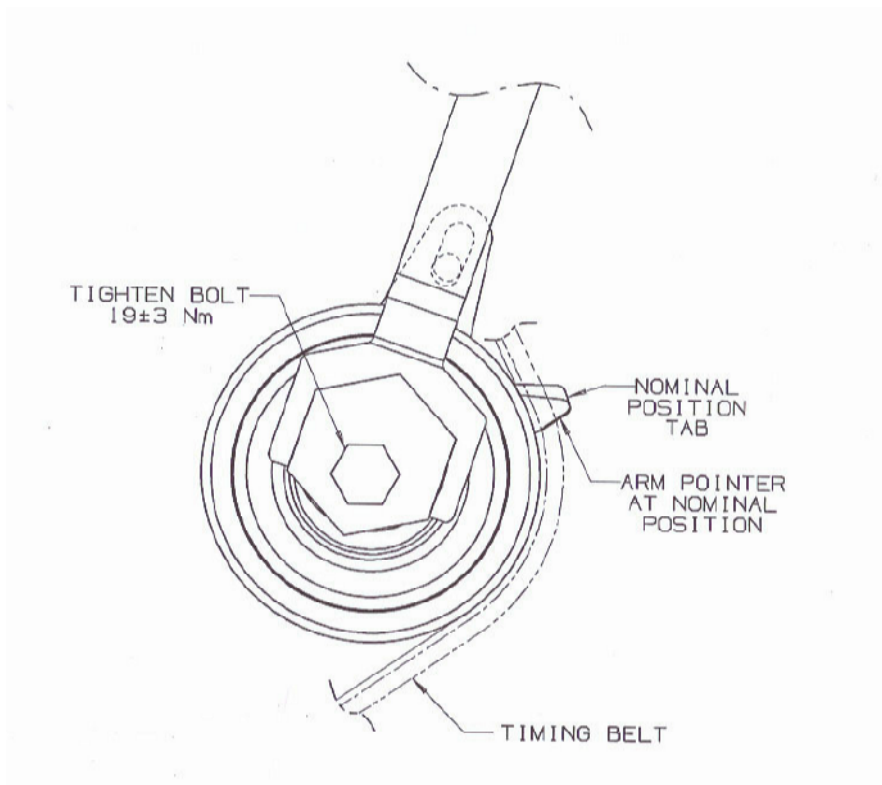

Figure 4: Proper Installation of tensioner at room temperature (20°C)
7. Continue rotating the Installation Shaft until the Arm Pointer and the Nominal Position Tab are closely aligned at their lower edges, then lock the tensioner in this position by tightening the Mounting Bolt with **19±3 Nm** of torque (See Figure 4).